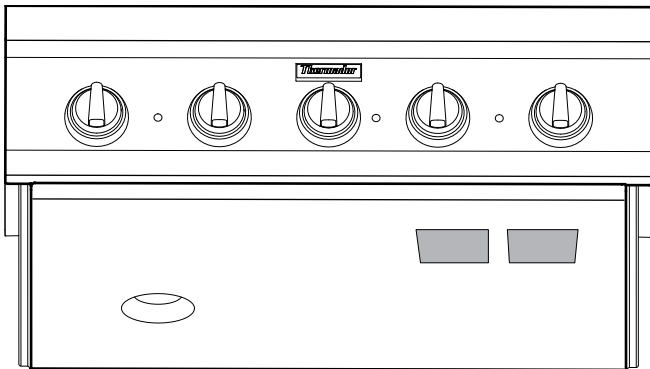

Figure 14: Data Rating Plate
- Write the model number and serial numbers (see *Figure 14*) in the Use and Care Guide. Leave the USE AND CARE GUIDE and INSTALLATION INSTRUCTIONS with the owner of the appliance.